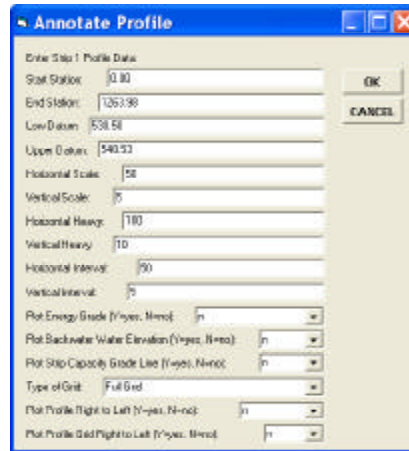

Figure 16
3. Click at the **OK** button to accept the default **Entire Profile** option in the third data field (scroll down in this data field, to see the available options), and display the multi-input dialog box of Figure 16 for defining the profile grid.
11. **Click** at the **OK** button to display the multi-input dialog box of Figure 16 for defining the profile grid. The previously made entries and selections are remembered.
18. **Scroll** down in the **Add to Data Frame:** data field, **select** the **Profile of Strip 1** option, and then **click** at the **OK** button to display the multi-input dialog box of Figure 16 for defining the profile grid. The previously made entries and selections are remembered.
Note that the dialog box of Figure 20 is similar to that of Figure 16, with the sole exception of a new data field at the bottom of the dialog box.